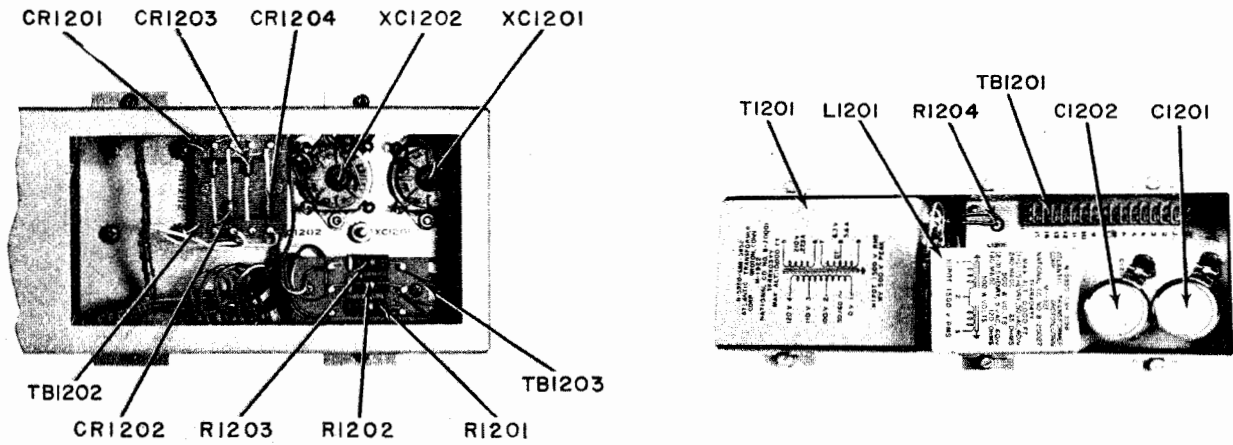

Figure 5-6. Demodulator Power Supply, Location of Parts
a. FUNCTION.—The demodulator power supply provides plate and filament voltages for the operation of the AM, USB, and LSB detector-amplifier circuits of the receiver. Faulty operation of the power supply will cause erratic operation or will disable the receiver completely. Figure 5-5 is a functional schematic diagram; figure 5-6 shows the location of parts.
- (1) Cable connections at TB651, TB652, and TB1201
- (2) Clamping of plug-in capacitors C1201 and C1202 in their sockets.